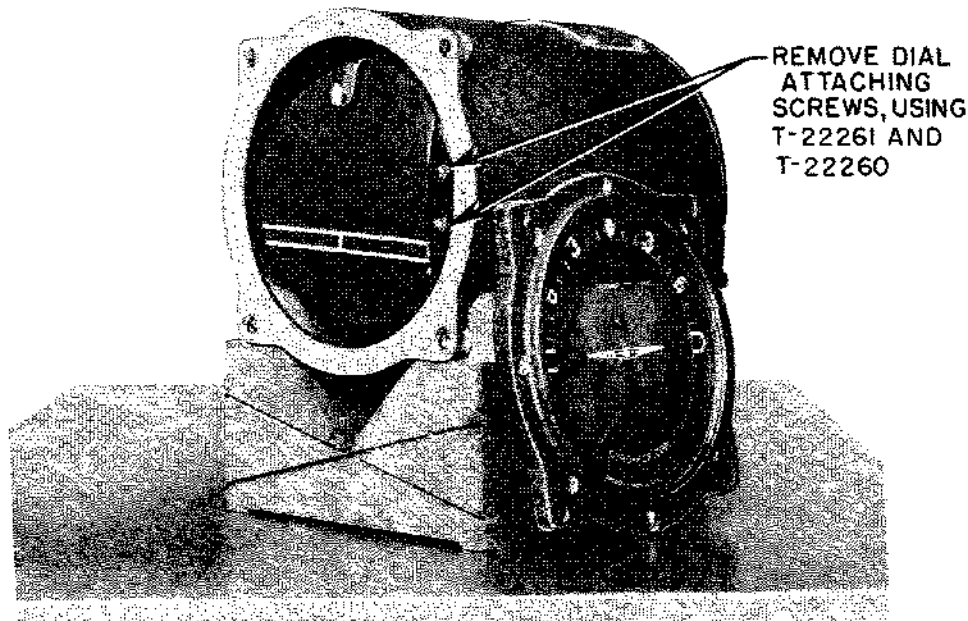

FIGURE 10 INSTRUMENT RESTING IN V-BLOCK WITH FRONT COVER REMOVED
1. To remove the instrument from the case requires extreme care. Before proceeding, study Figs. 10, 11 and 12.
3. Rest the instrument on a wooden V-block as shown in Fig. 10, and remove the dial by taking out the two screws and lockwashers (at the right directly behind the dial). Loosen with special off-set screw-driver, T-22261, and continue operation with geared, off-set screw-driver, T-22260.